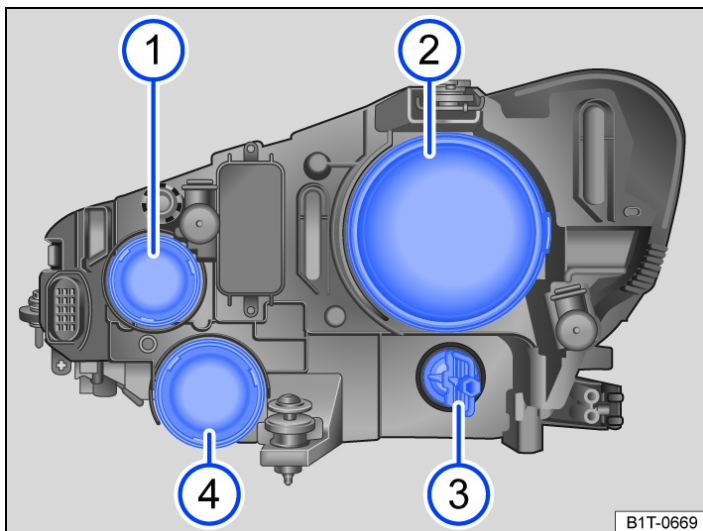

Fig. 1 In the engine compartment: covers on back of the left-hand headlight.
3. Pull off rubber cover → Fig. 1 ① from the back of the headlight.